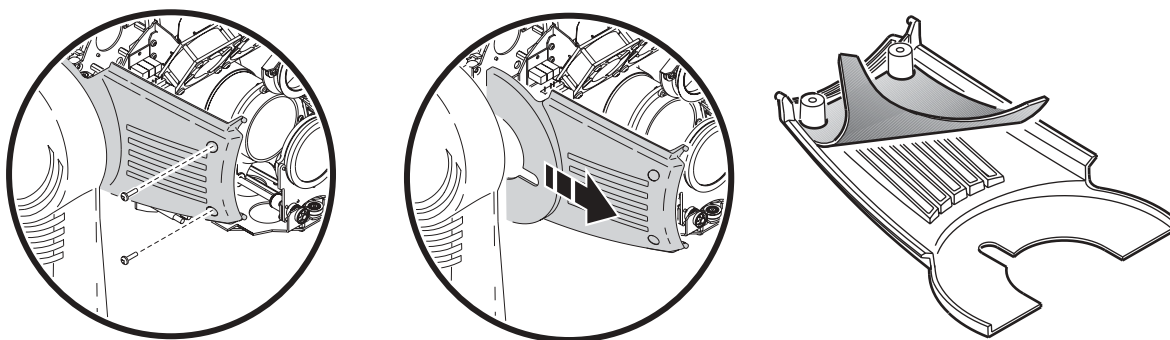

**Figure 21: Air filter replacement**
6. On each side of the head, remove the 2 screws that hold the side covers. Slide the covers forward to remove. Clean the air filters or replace them. If they are saturated with smoke fluid, etcetera, soak them in warm soapy water and blot dry. Position the filters on the side covers and reinstall. See Figure 21.